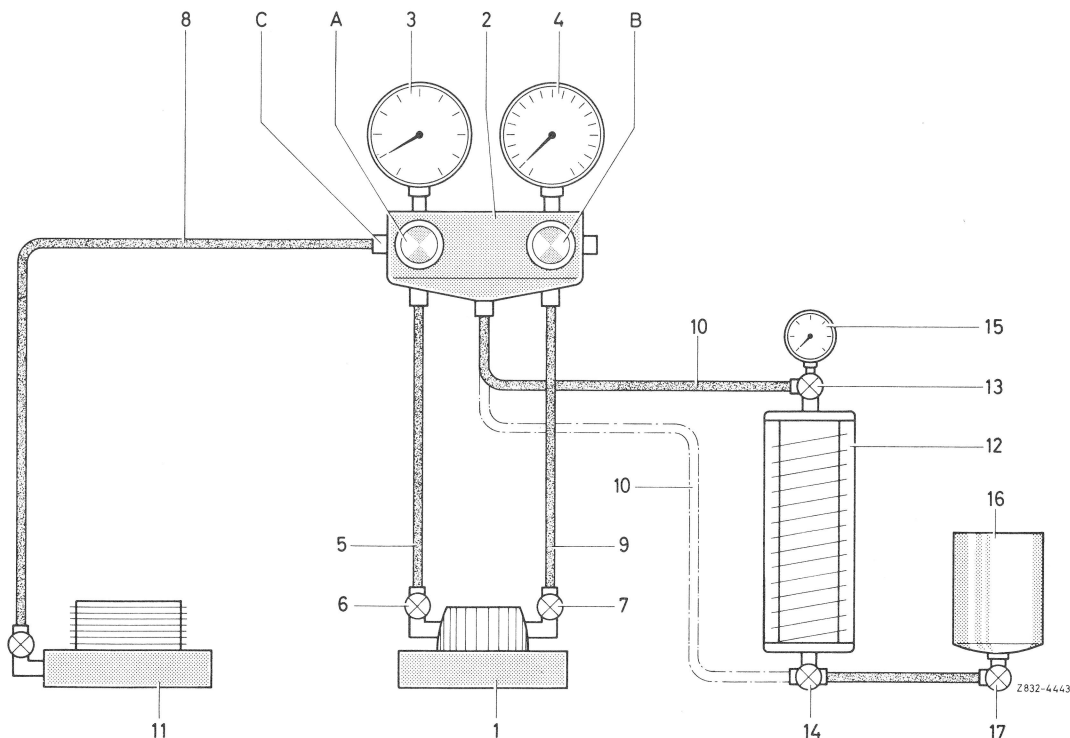

Figure 2
Any variations in **volume** caused by temperature changes can be compensated for by reading the pressure on the pressure gauge (15) and setting the same pressure on the upper scale of the rotatable plastic cylinder, and by making due allowance for the refrigerant brand as indicated on the lower edge of the rotatable plastic cylinder. Since the brand used is refrigerant R 12, set scale on the lower edge of the plastic cylinder to R 12 (Fig. 2).
1 Connect hose to bottom of valve (14) on charging cylinder (12) and to valve on refrigerant container. Then place refrigerant container (16) upside down with the valve facing downwards (Fig. 2).
5 Disconnect hose from refrigerant container. Connect hose (10) to center connection of gauge set (2) (Fig. 2). If refrigerant vapor is added (through suction valve) connect hose (10) to valve (13), if liquid is added (through discharge valve) to valve (14).